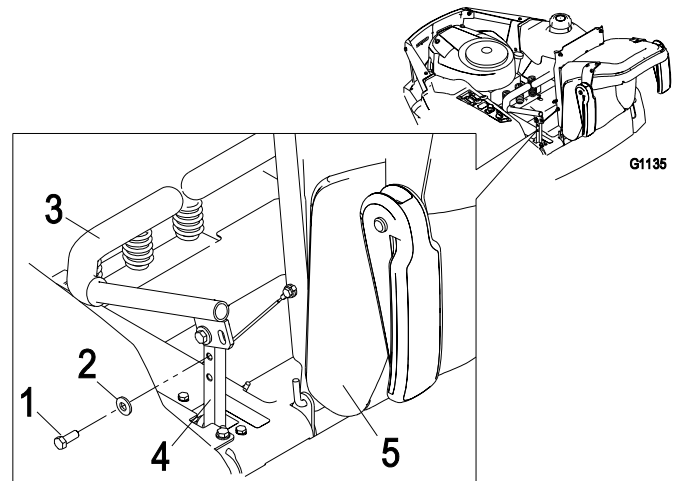

Figure 2
1. Remove the bottom 3/8" x 1" bolt and spring disc washer from the control arm shaft. Loosen the upper 3/8" x 1" bolt and spring disc washer in the control lever so that the lever can rotate (See Figure 2).